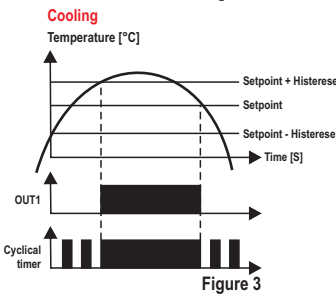

Figure 3
- **Cyclical timer output is on whenever stage 1 output is on (F22=4):** in this operating mode timer cycles according to the times configured in F20 ( $\overline{[T \theta n]}$ ) and F21 ( $\overline{[T \theta F F]}$ ), and **stage 3** stops cycling and keeps the output switched on, whenever **stage 1** output switches on, as shown in Figure 3.